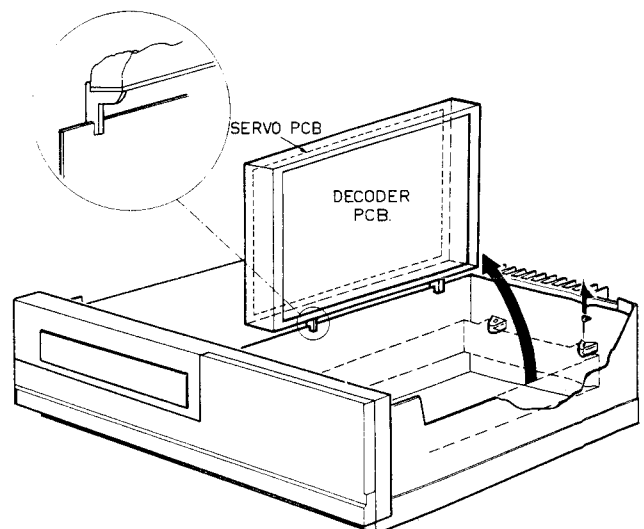

Fig. 4
- When the PCB holder is placed in the service position (see Fig. 4) measurement can be performed on both the servo PCB and the decoder PCB.